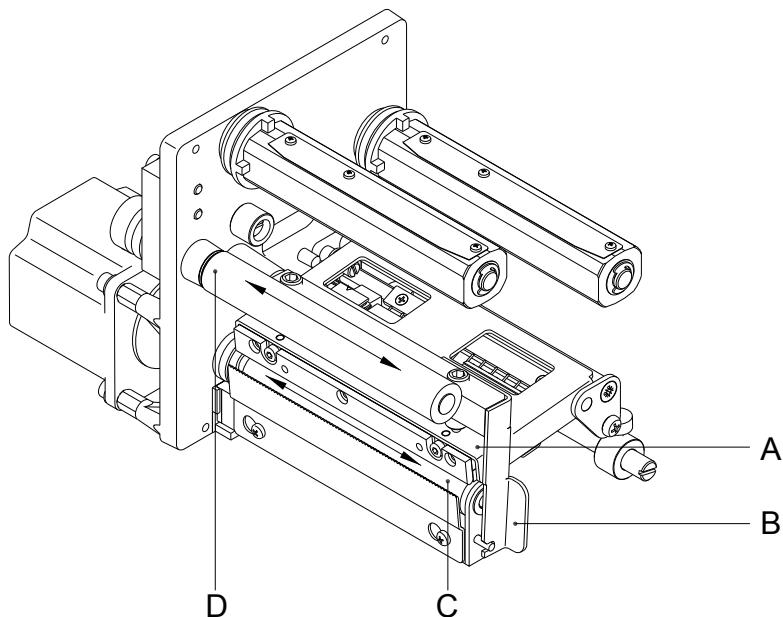

Figure 2
2. Turn lever (B, Figure 2) counter clockwise to lift up the printhead.